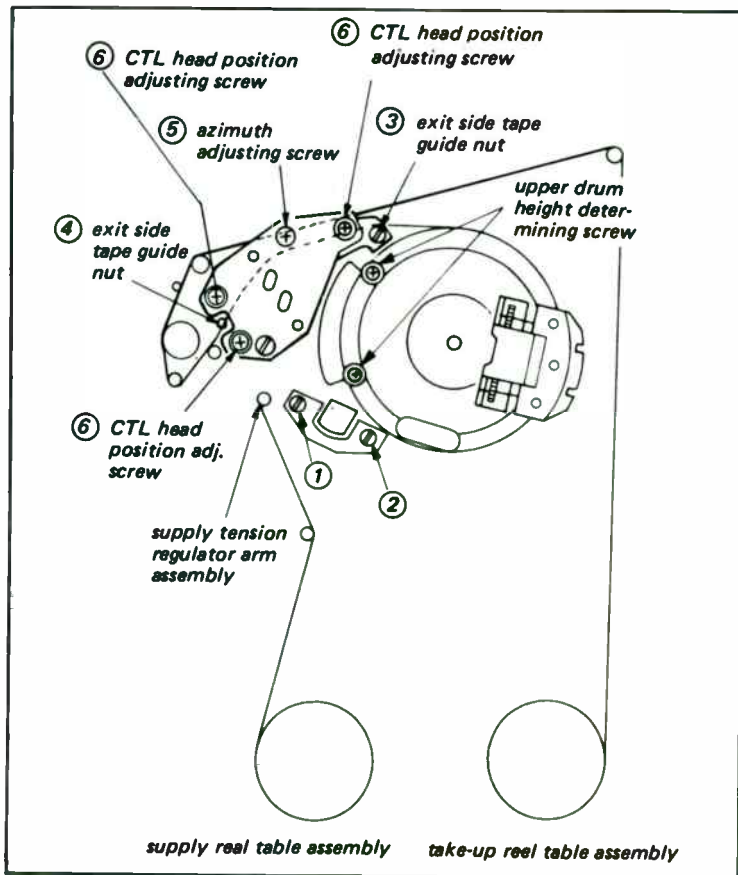

Fig. 5-27. Tape path adjustment.
Adjustment sequence (see Fig. 5-27).
Adjust tape guide nuts (1), (2), (3) and (4) according to the following adjustment procedures so that the rf envelope displayed on the scope screen meets the specification required. The audio signal level fluctuation should be within 2 dB. See Figs. 5-27 and 5-32.
For the entrance side adjustment, play back the monoscope segment of the alignment tape. Make an attempt of either screwing in or out slightly the entrance side tape guide nuts, as shown in Fig. 5-27 as (1) and (2), in order to optimize the center and right half portion of the rf waveshape.